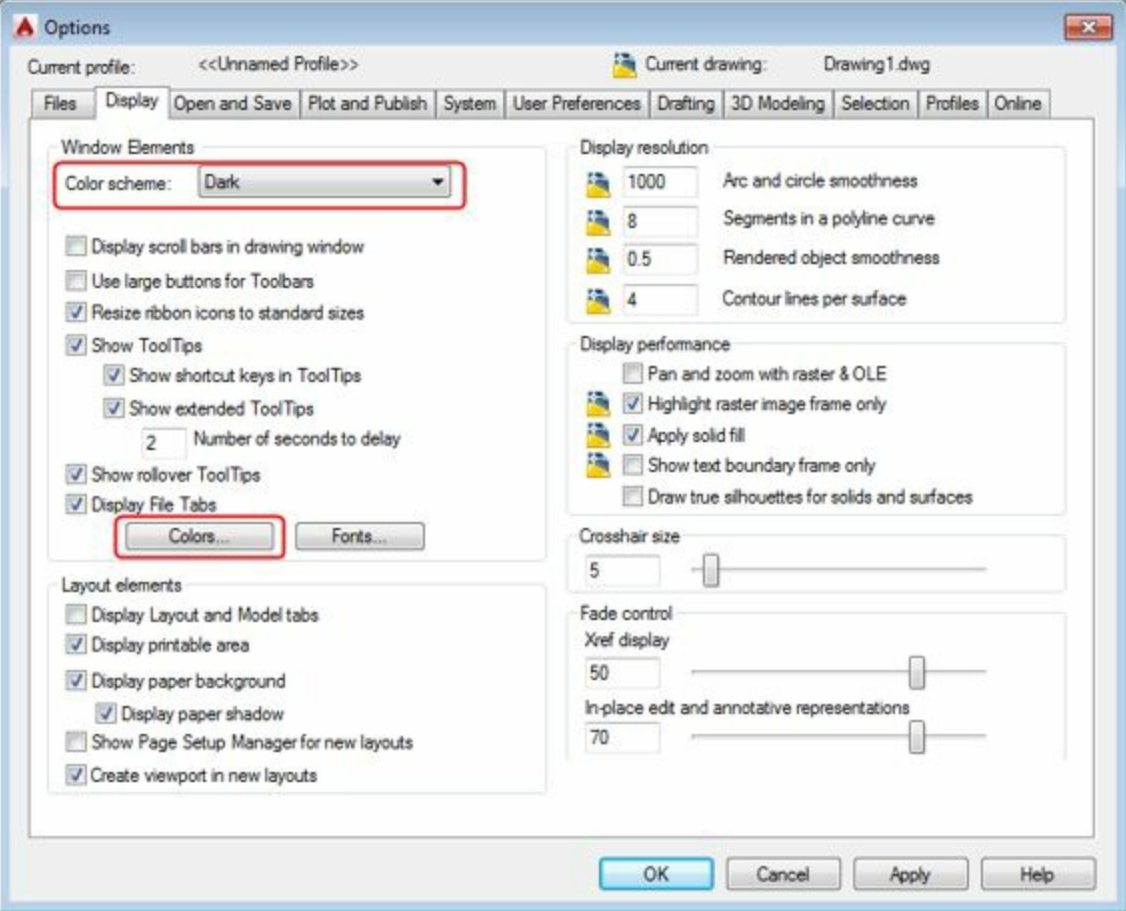
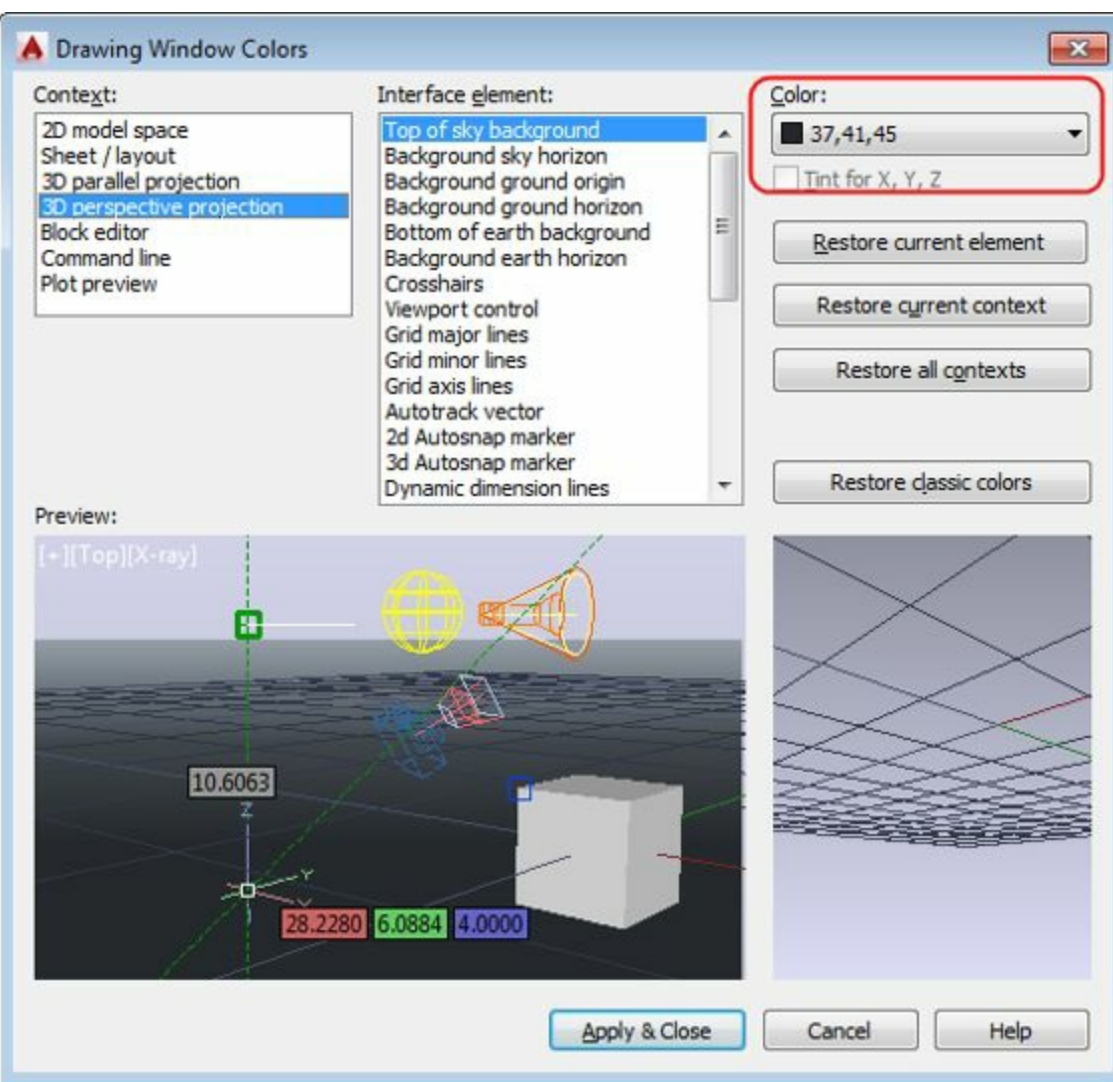

Figure-11. Options dialog box
Figure-13. Drawing Window Colors dialog box
- Click on the **Options** button at the bottom right of the **Application Menu**. The **Options** dialog box will be displayed; refer to Figure-11.
- Click on the **Colors** button; refer to Figure-11. The **Drawing Window Colors** dialog box will be displayed as shown in Figure-13.